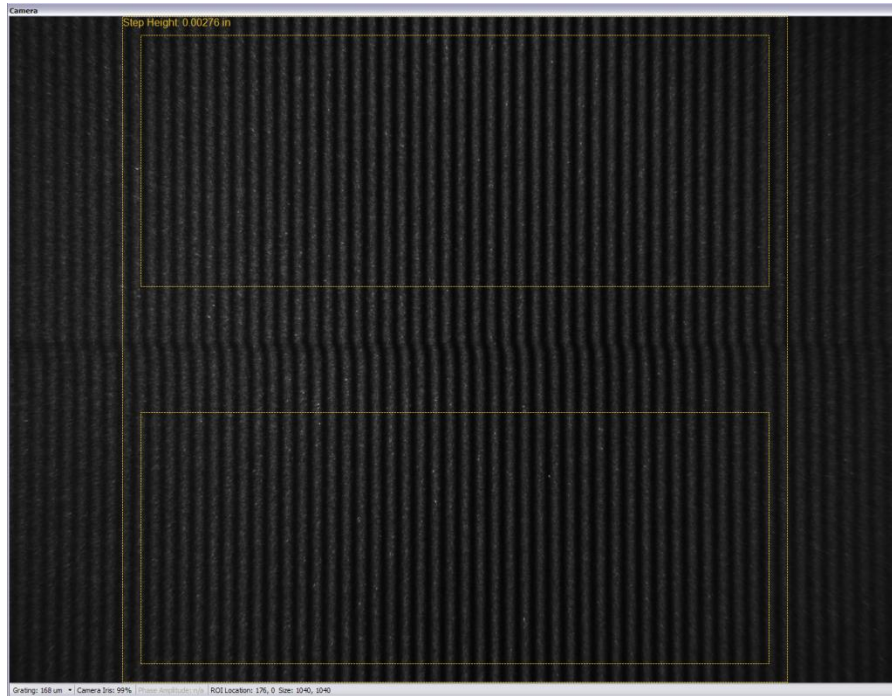

Figure 3.11 Calibration Block Image
- In this step, a large rectangle with two inner rectangles is shown on the screen. The two small rectangles define the two surface areas used to calculate the step height. Move the sample along its plane so that the intermediate step line is between the two inner rectangles (**Figure 3.11**). Exact alignment is not required